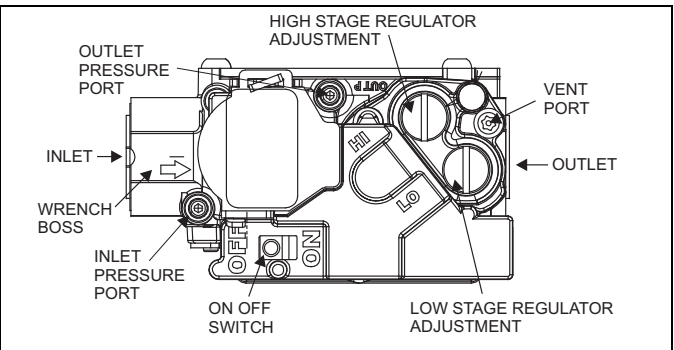

FIGURE 39: Gas Valve
Inlet and manifold gas pressure may be measured by connecting the "U" tube manometer to the gas valve with a piece of tubing. Follow the appropriate section in the instructions below. Refer to Figure 39 for a drawing of the locations of the pressure ports on the gas valve.
This gas valve has separate regulator adjustment screws for high fire and low fire, as shown in Figure 39. The procedure below is used to adjust either the high fire manifold pressure or the low fire manifold pressure.
- 1. Refer to Figure 39 for location of pressure regulator adjustment cap and adjustment screws on main gas valve.